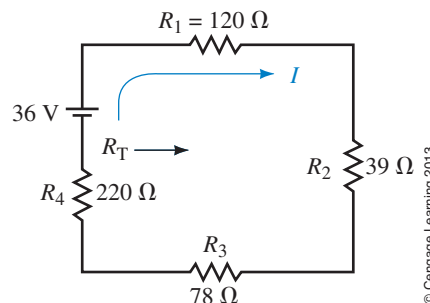

FIGURE 5–63
20. Refer to the circuit of Figure 5–64.